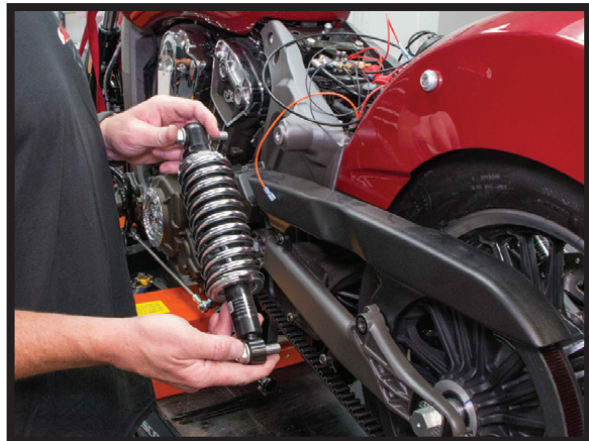

FIGURE 21
10. SUPPORTING THE MOTORCYCLE UNDER THE FRAME WITH A JACK, REMOVE THE LEFT SHOCK FIRST. THEN REMOVE THE UPPER BOLT FROM THE RIGHT SHOCK. LOWER THE BIKE ON THE CENTER JACK TO GAIN ACCESS TO THE LOWER BOLT. (FIGURES 21, 22, 23)